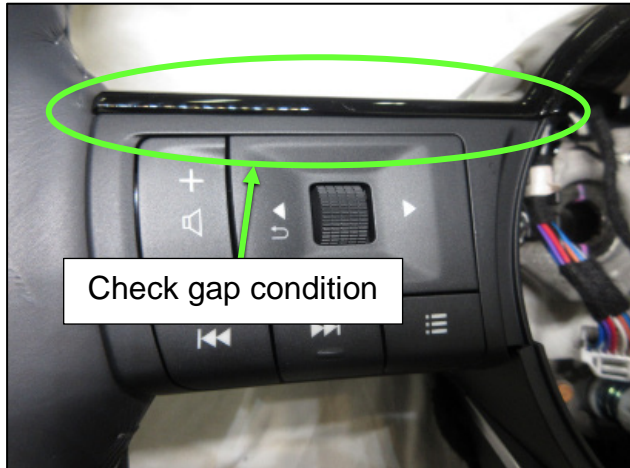
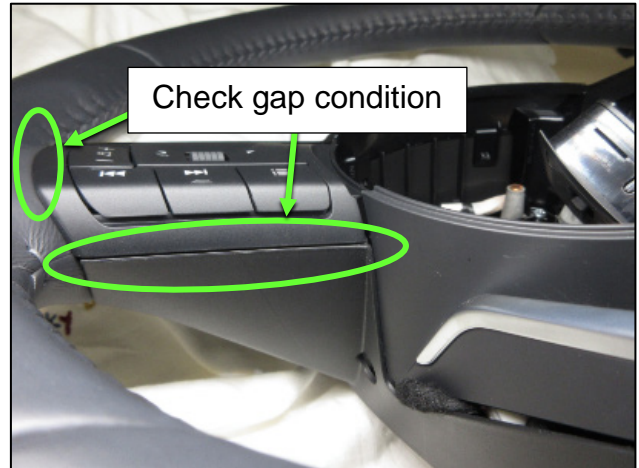

Figure 25
Figure 26
17. After installing the switch assembly, verify no gap exists between the switch assembly and the adjacent surfaces in the areas shown in Figure 25 and Figure 26. Repeat this step for the opposite side switch.